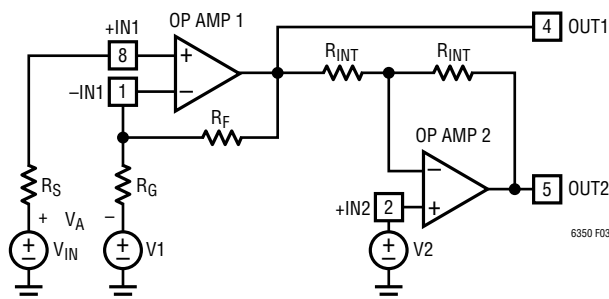

Figure 3. General Configuration
Because the input op amp presents its output and both its inputs to LT6350 pins, alternative configurations are possible. Consider the general configuration shown in Figure 3.
The simple connection described in the Basic Connections section can be seen as a special case of the general circuit in Figure 3 where R_F is a short circuit, R_G is an open circuit, and the voltage at V_{IN} is centered around the voltage V_2 . If differential gain greater than two is needed, the values of R_F and R_G can be adjusted in accordance with Equation (2). Additional information about feedback networks is given in the next section and in the Input Amplifier (Op Amp 1) Feedback Components section.
Although the previous examples have assumed the input signal is applied at +IN1, it is also possible to use the input op amp in an inverting configuration by fixing the voltage V_{IN} and applying the input signal at V_1 of Figure 3. Using the input op amp in the inverting configuration fixes its input common mode voltage at the voltage V_{IN} , which allows the input signal at V_1 to traverse a swing beyond the LT6350 supply rails. To avoid unwanted differential offsets in this configuration V_{IN} should be chosen such that:
When feedback resistors are used to set gain in op amp 1, care should be taken to ensure that the pole formed by the feedback resistors and the total capacitance at the inverting input, -IN1, does not degrade stability. For instance, to set the LT6350 in a differential gain of +4, R_F and R_G of Figure 3 could be set to 1k Ω . If the total capacitance at -IN1 (LT6350 plus PC board) were 3pF, a new pole would be formed in the loop response at 106MHz, which could lead to ringing in the step response. A capacitor connected across the feedback resistor and having the same value